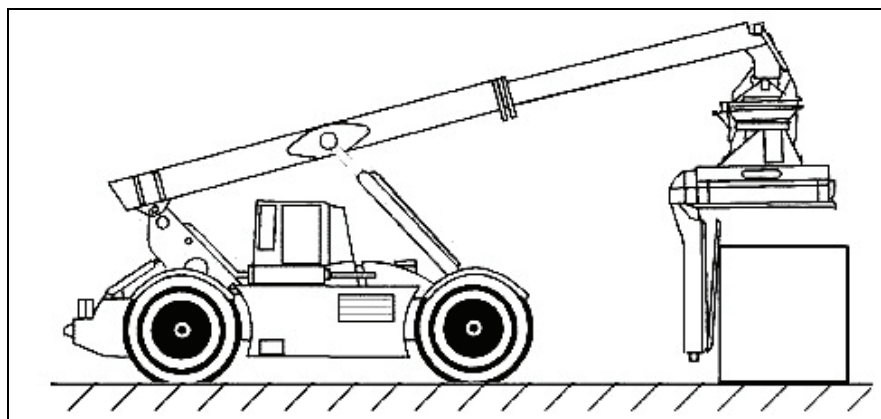

Figure 3-162. Retracting the Boom
- h. Retract the boom and position the truck in front of an ISO container or loading dock (see Figure 3-162).
- l. Place transmission in Neutral (N).